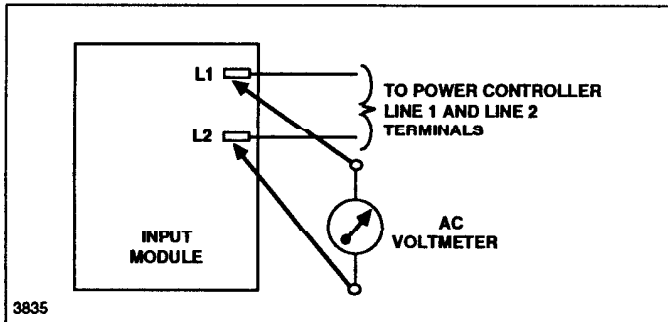

Figure 5-8. Input module line voltage verification.
2. Using an AC voltmeter, verify that line voltage is present at the input module's L1, L2, and (if a 664G/K) L3 terminals (see figure 5-8).